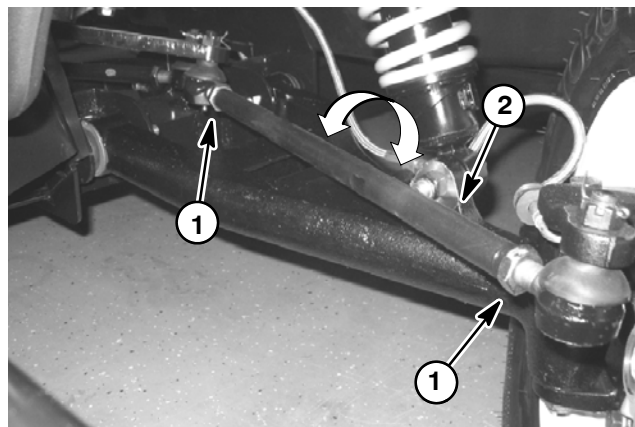

Figure 2.4
A. Loosen jam nuts at both ends of tie rods (Fig. 2.4).